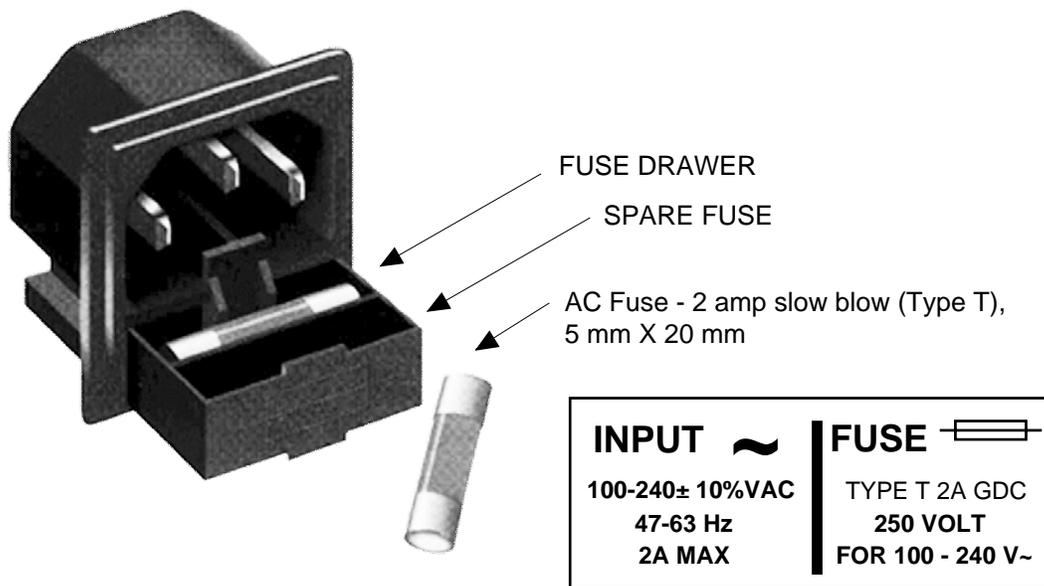

FIGURE 2.4 Fuse Location and Spare Fuse
8. AC Fuse - The fuse is a 5 mm X 20 mm, 2 amp slow blow (Type T) and is inserted in the far slot in the drawer below the AC input as shown in Figure 2.4, page 10. There is a spare fuse in the near slot. If a fuse continues to open, the power supply is most likely defective.